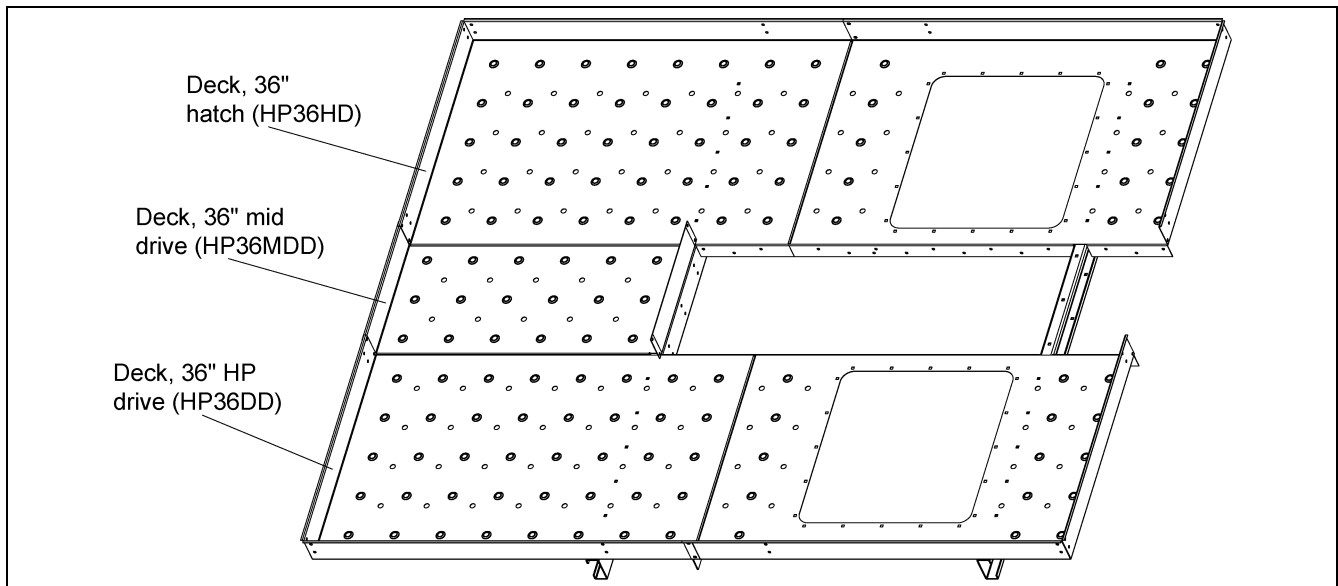

Figure 5B 36" Platform
The drive deck and hatch deck sections are interchangeable. All shown views are consistent for a right hand drive elevator. If you are assembling a left hand drive elevator the hatch deck would be closest to you and the drive deck farthest *in Figure 5B*. Place outside floor sections (drive attach) on support channels in location shown below and fasten using 3/8" x 1" carriage bolts and whiz nuts. Fasten mid drive deck to the two (2) outside floor sections with 3/8" x 1" carriage bolts and whiz nuts. Make sure not to tighten the hardware until assembly is complete.